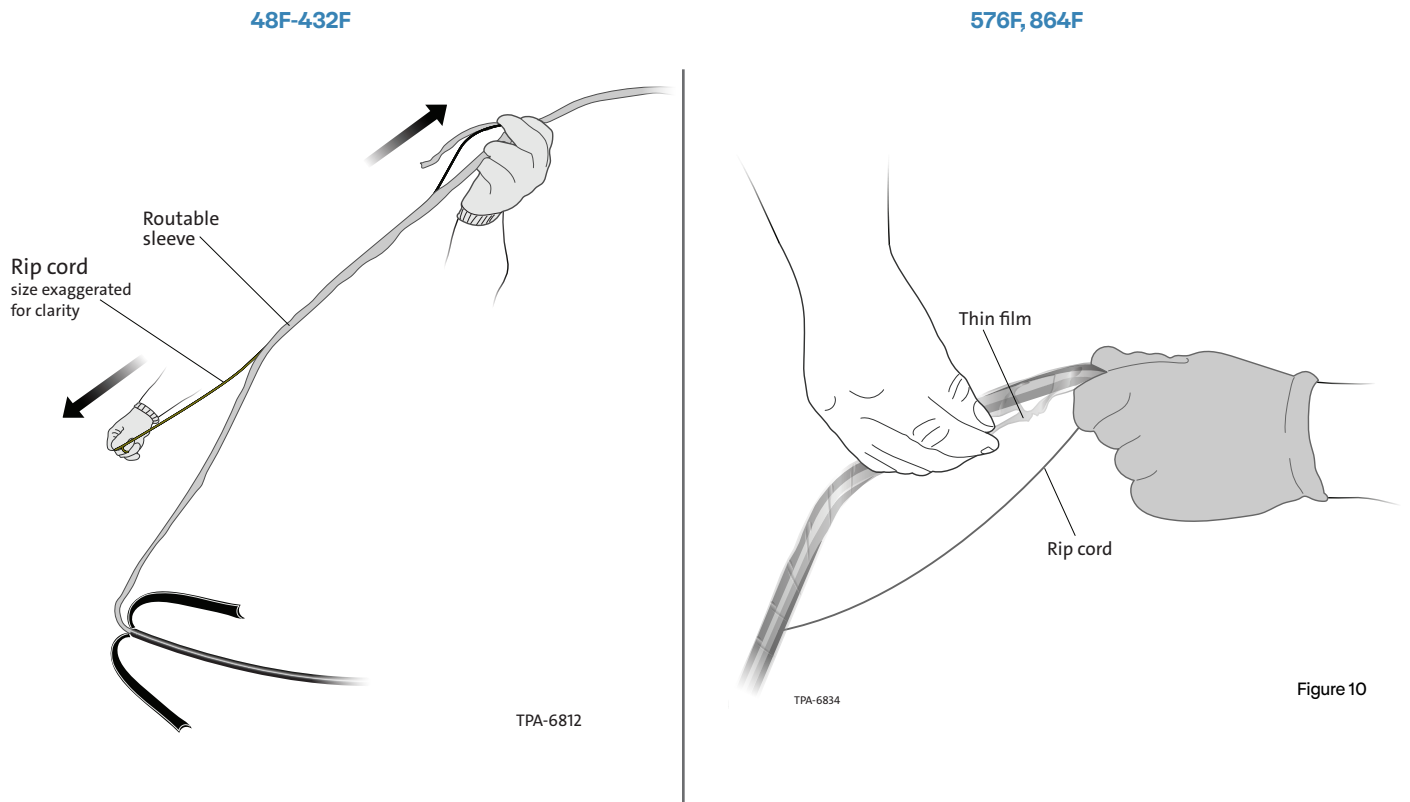

Figure 10
Step 6: Remove routable sleeve (48F-432F) or thin film (576 and 864) peeling by hand on end to locate ripcord. Then pull to opposite end leaving 6 inches of routable sleeve covering ribbons. Thin film on the 576 and 864F can be completely removed. (Figure 10).